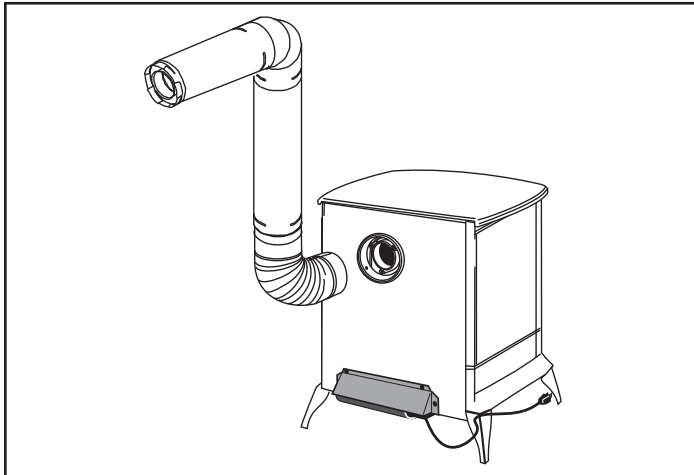

Figure 22
**Step 2** - DirectVent Pro pipe and fittings are designed with special twist-lock connections. To connect the venting system to the appliance flue outlet, a twist-lock appliance adaptor is built into the appliance at the factory. Assemble the desired combinations of black pipe sections and elbows to the appliance adapter with pipe seams oriented towards the wall or floor, as much out of view as possible, Figure 22.